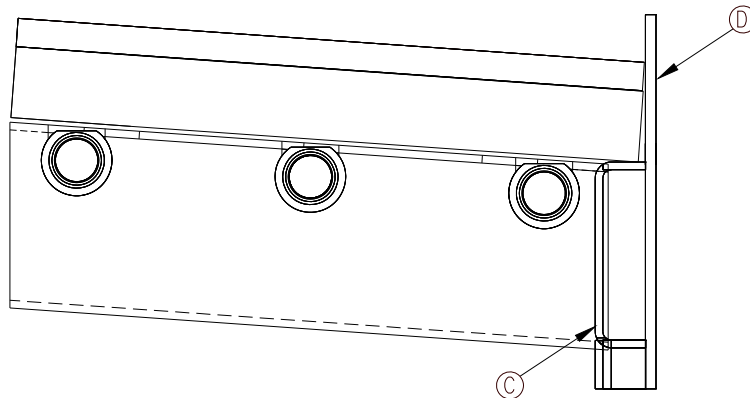

Figure 3b
2. Put them on the horizontal air duct (C) (see figure 3b). Afterwards, push them towards the bottom and sides so that they rest on the back of the firebox (D) and on the side air ducts.